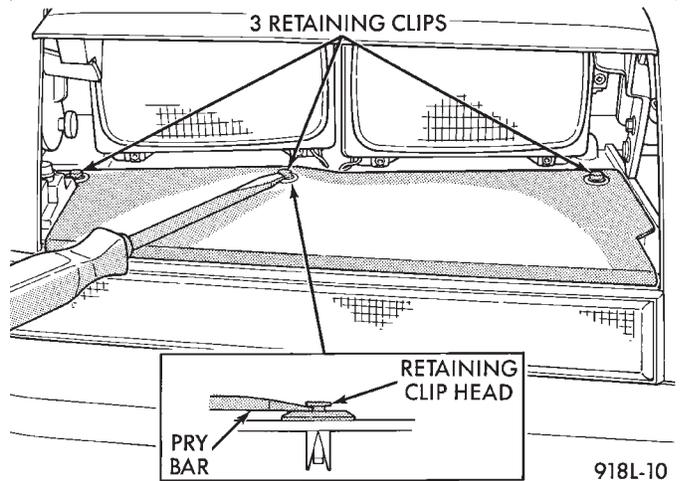

Fig. 17 Front Turn Signal Lamp Shield
- (9) Remove three clips retaining turn signal lamp shield to body (Fig. 17), and remove shield.